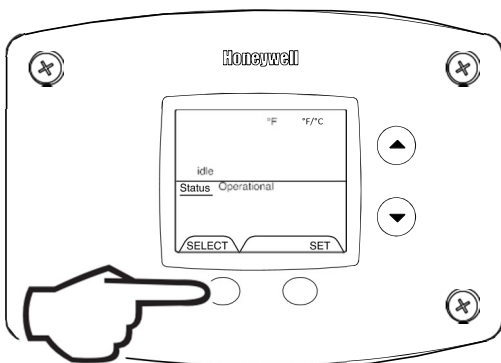

Fig. 54
1. While in 'Service Mode', press 'Select' button until '°F/°C' is shown in the upper right portion of the water heater display (Fig. 54).